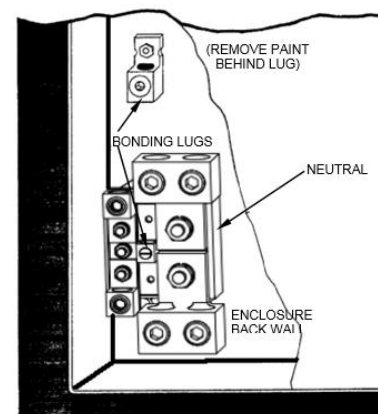

Figure 2 – Typical Installation of TNI66C Neutral Kit
Step 2: Mount neutral block to enclosure as shown in Figure 2. Torque fasteners to 20-24 in-lbs.
Step 4: Install bonding screw as shown in Figure2 (If required). Remove the paint on the enclosure where the bonding lug will be installed. Torque mounting fasteners to 25-30 in-lbs. Install bonding jumper (not provided) between bonding lugs and torque lug screws to 45 in-lbs (size jumper wire according to the National Electric Code).